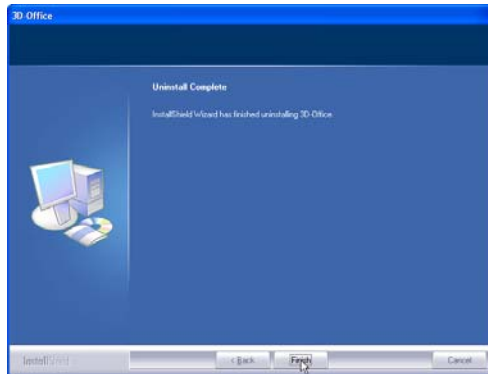

Figure 1-5. 3D-Office Successfully Removed
3. Press **OK** to acknowledge the removal of 3D-Office (Figure 1-5).